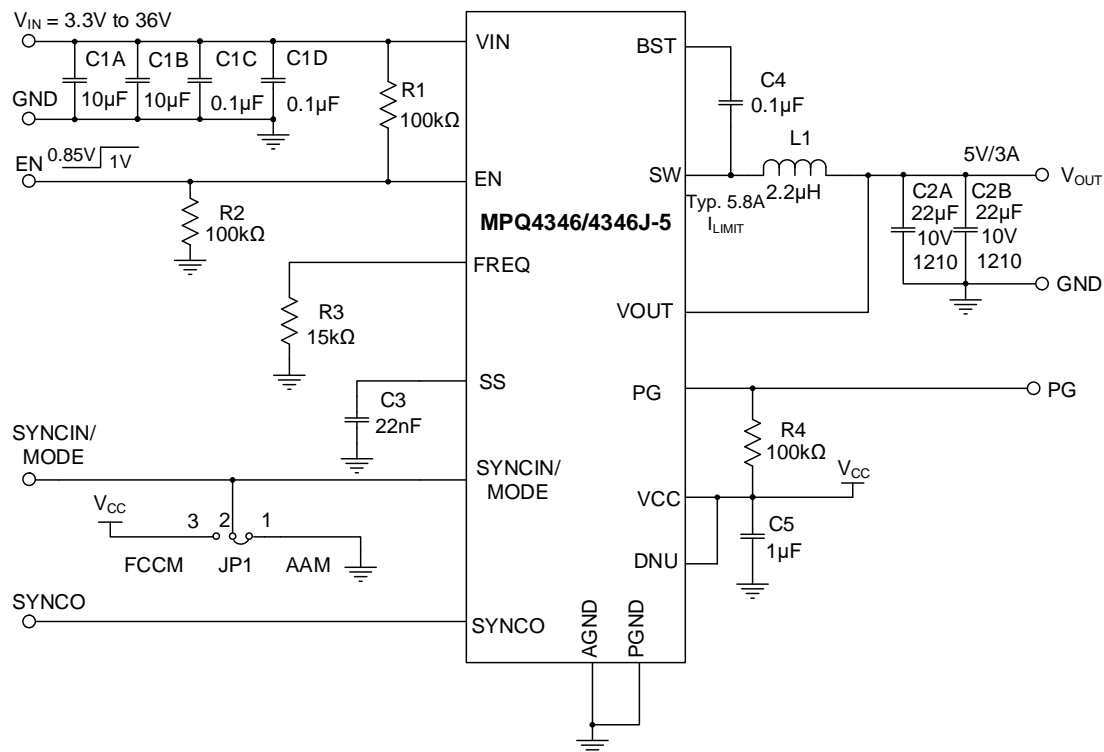

Figure 9: Typical Application Circuit ($V_{OUT} = 5V$, $f_{SW} = 2.2MHz$)
12) The recommended PCB layout is based on Figure 9 on page 40.